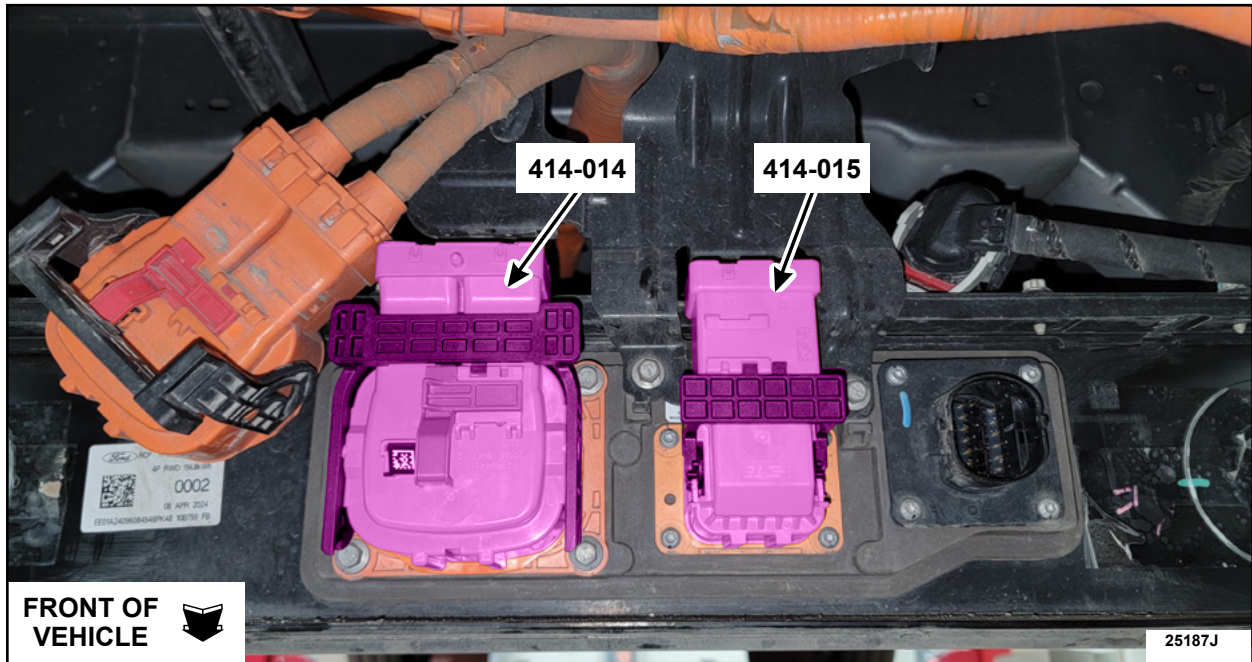

FIGURE 9
12. Connect the pressure test connectors adapters 414-014 and 414-015 to the rear of the high voltage battery. See Figure 9.